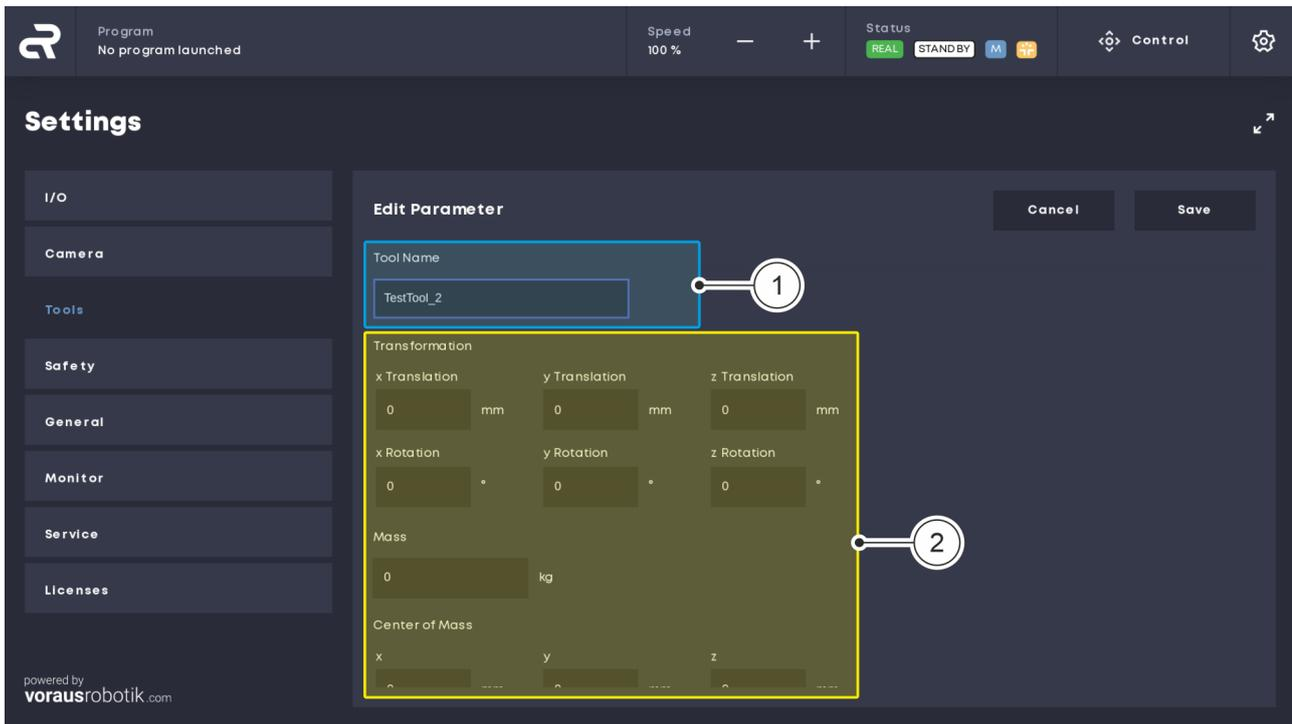

Fig. 20 Parametrising a tool
06. Name the tool Fig. 20/① and enter the tool parameters Fig. 20/②.